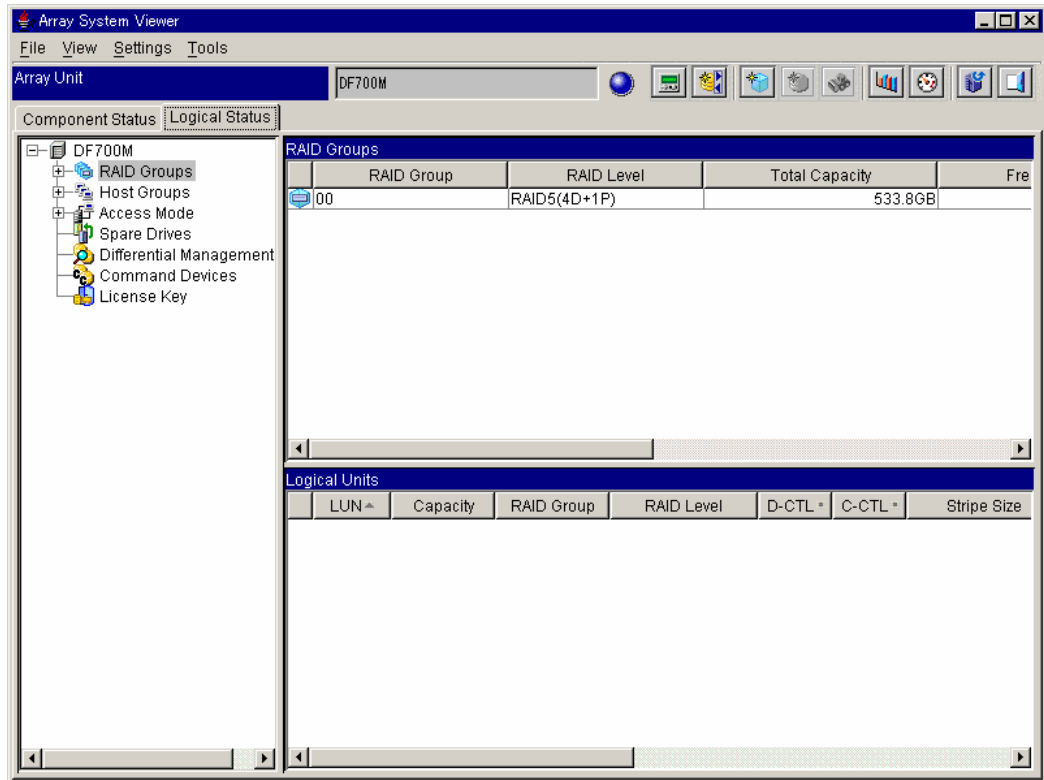

Figure 6.7 Newly Created RAID Group
8. The **Logical Status** tab will display the new RAID group (see Figure 6.7).